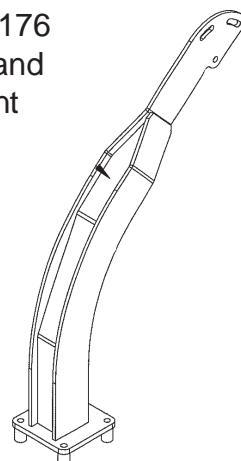

Figure 1
- Fitting Joy Stick Mount Stand to Tractor Cab.** The joystick stand is a weldment that will bolt to the floor of the cab (See Figure 1 & 2). Sit the stand inside cab of tractor and position it for the best reach by the operator, sometimes it is best to consult the operator to see what is needed by them. Once the location is determined use a marker pencil to mark the holes in the stand to the floor mat of cab.